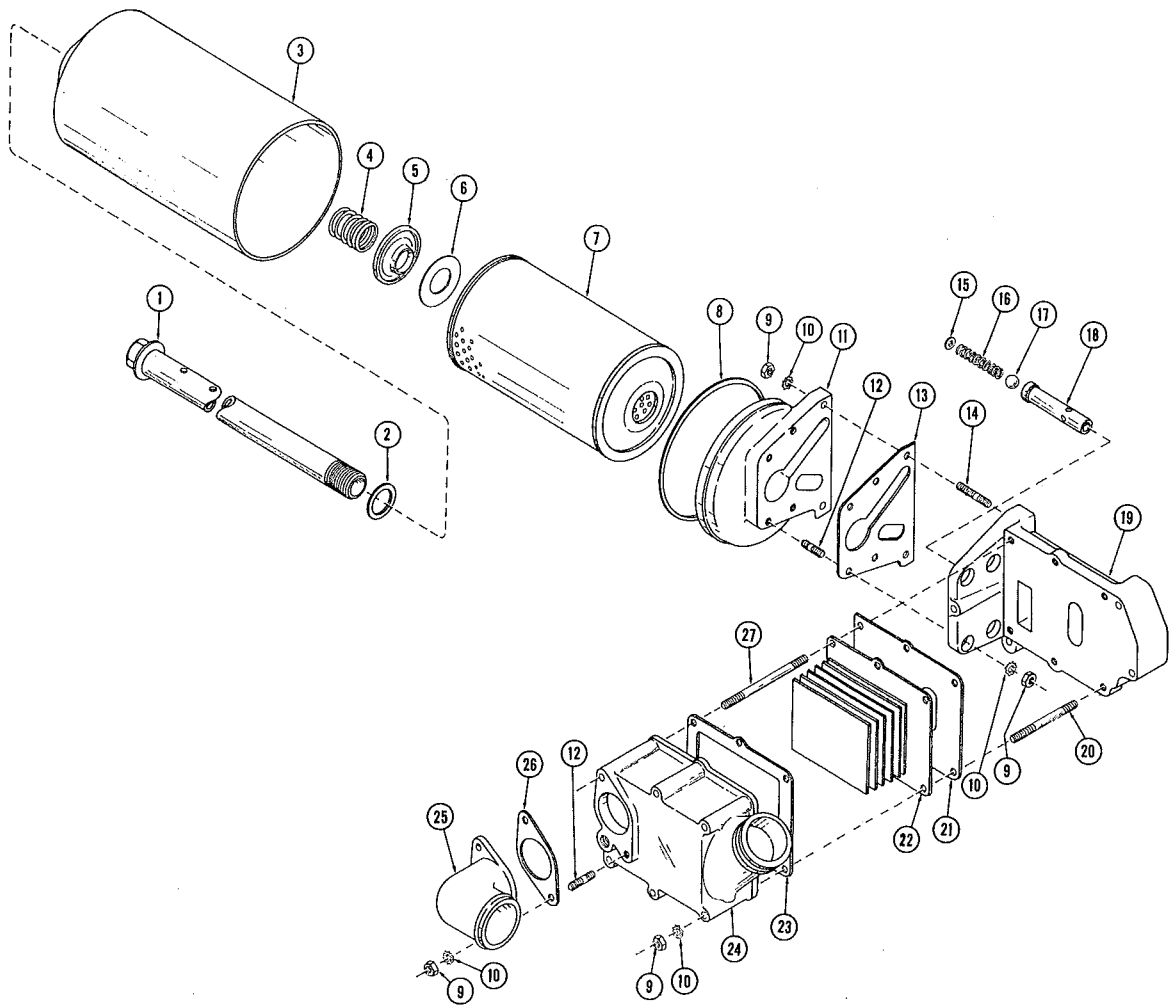

FIG. 37—OIL COOLER AND FILTER, EXPLODED VIEW
- d. Check the ring side clearance in the ring grooves with a feeler gauge. Check the rings with the piston in a sleeve and the gauge inserted through the sleeve ports as shown in Fig. 37. Side clearance
a. Remove the nuts and lock washers that attach the elbow flange (Fig. 37) to the oil cooler cover. Remove the elbow flange and gasket.